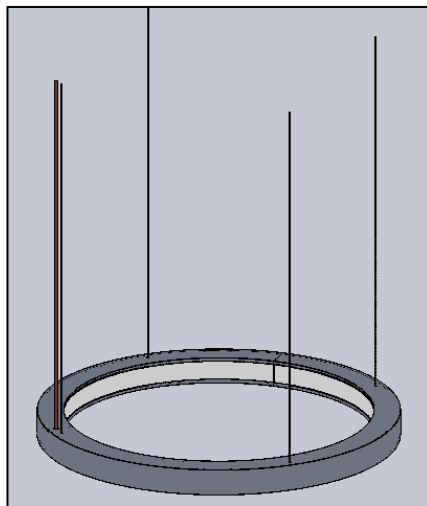

FIG. 3 - REV LUMINAIRE
1. REV LUMINAIRE. (Pre-assembled as shown in FIG. 3)